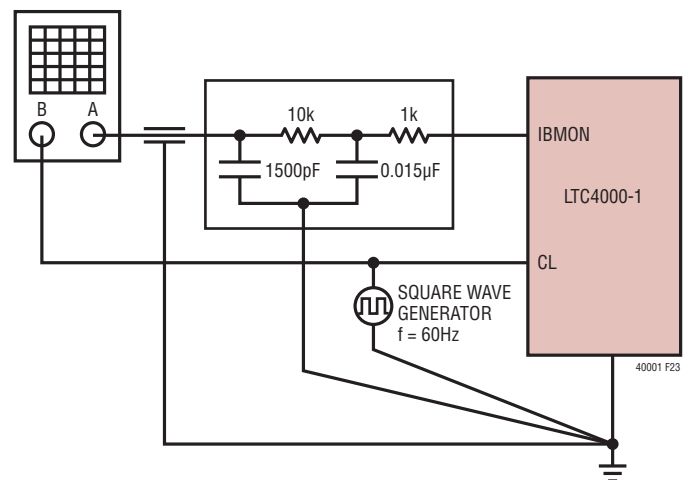

Figure 23. Charge Current Regulation Loop Compensation Setup
- For compensation, the procedure described in the empirical loop compensation section is followed. As recommended, first a $1\mu F$ C_C and 10k R_C is used, which sets all the loops to be stable. For an example of typical transient responses, the charge current regulation loop when V_{OFB} is regulated to $V_{OUT(INST_ON)}$ is used here. Figure 23 shows the recommended setup to inject a DC-coupled charge current variation into this particular loop. The input to the CL pin is a square wave at 70Hz with the low level set at 120mV and the high level set at 130mV, corresponding to a 1.2A and 1.3A charge current (100mA charge current step). Therefore, in this particular example the trickle charge current regulation stability is examined. Note that the nominal trickle charge current in this example is programmed at 1.25A ($R_{CL} = 24.9k\Omega$).